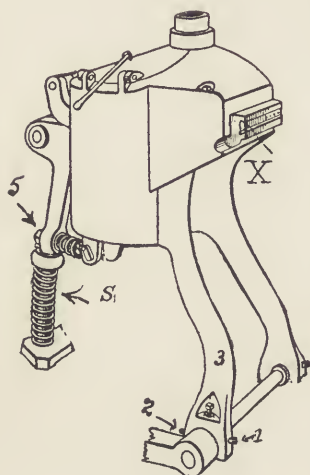

FIG. 23.
that the pot is locking very tightly on one end and not on the other, it is sometimes better to swing the pot around by means of the adjusting screws in the bottom of the pot legs. For instance, if the impression indicates that the left-hand end of the mouthpiece (X, Fig. 23) is being pressed too tightly against the mold, loosen the front screw (1) and screw in on the back screw (2) on the left pot leg (3). This will throw this end of the pot mouthpiece further back, and, if done carefully, will result in a square lock-up. The screws must be tightened and the jam-nuts also, or the pot will work loose and give trouble."